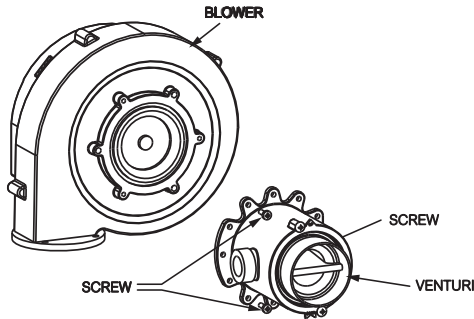

Fig. 52: Propane Venturi
9. Replace the Natural Gas Venturi with the Propane Venturi (see Fig 52). representative.